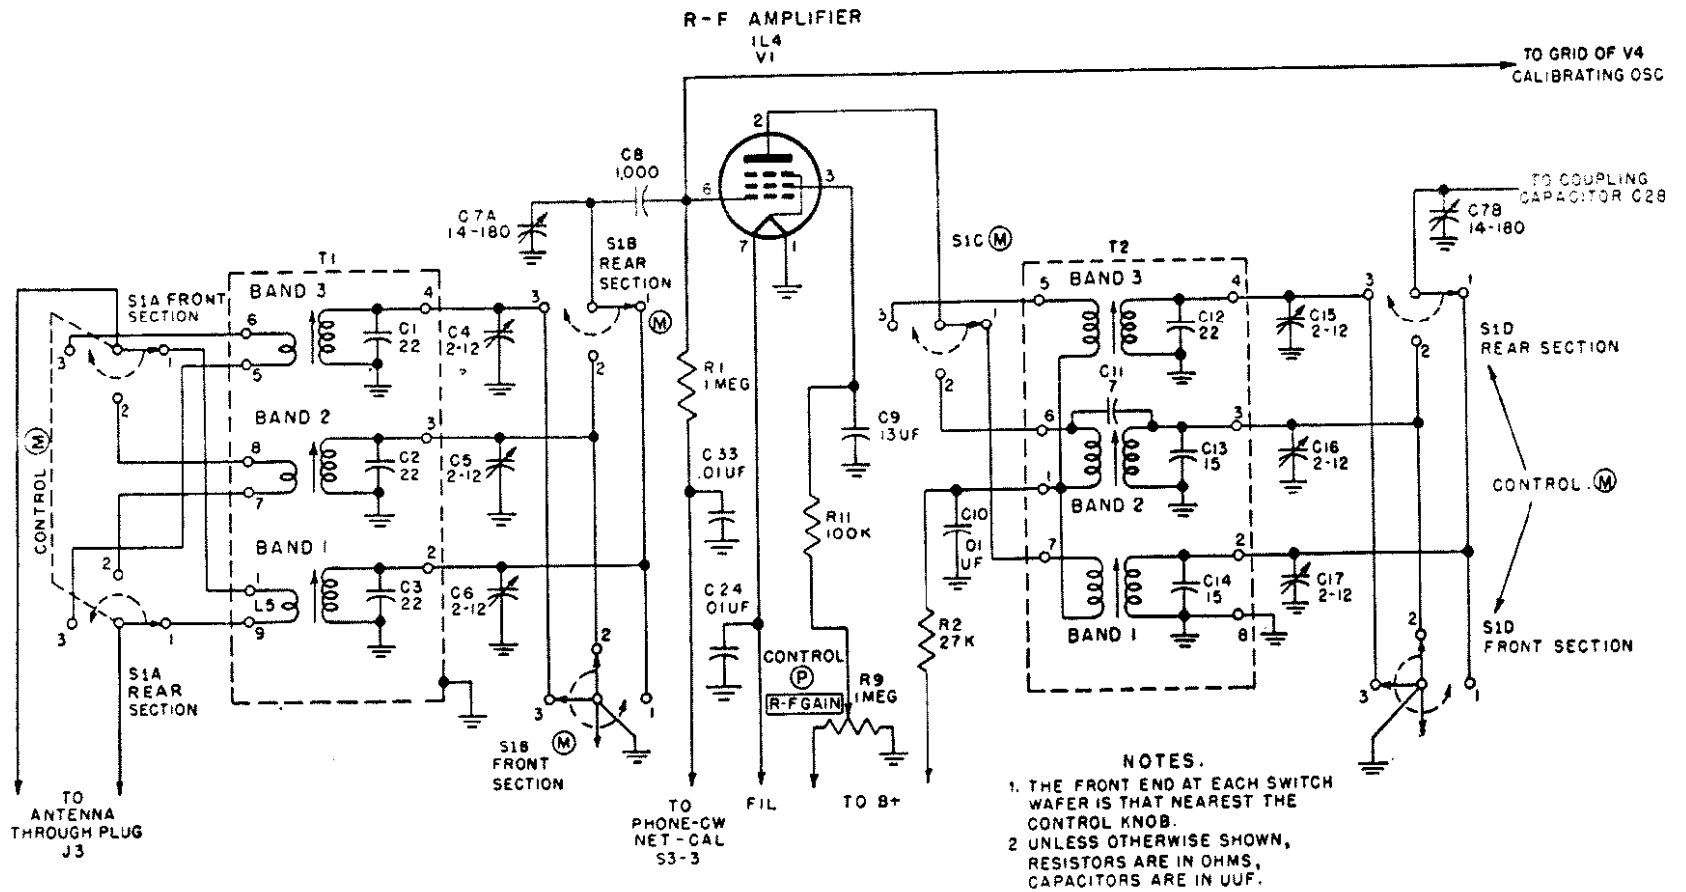

Figure 57. R-f amplifier, simplified schematic.
80. R-F Amplifier V1 (fig. 57)